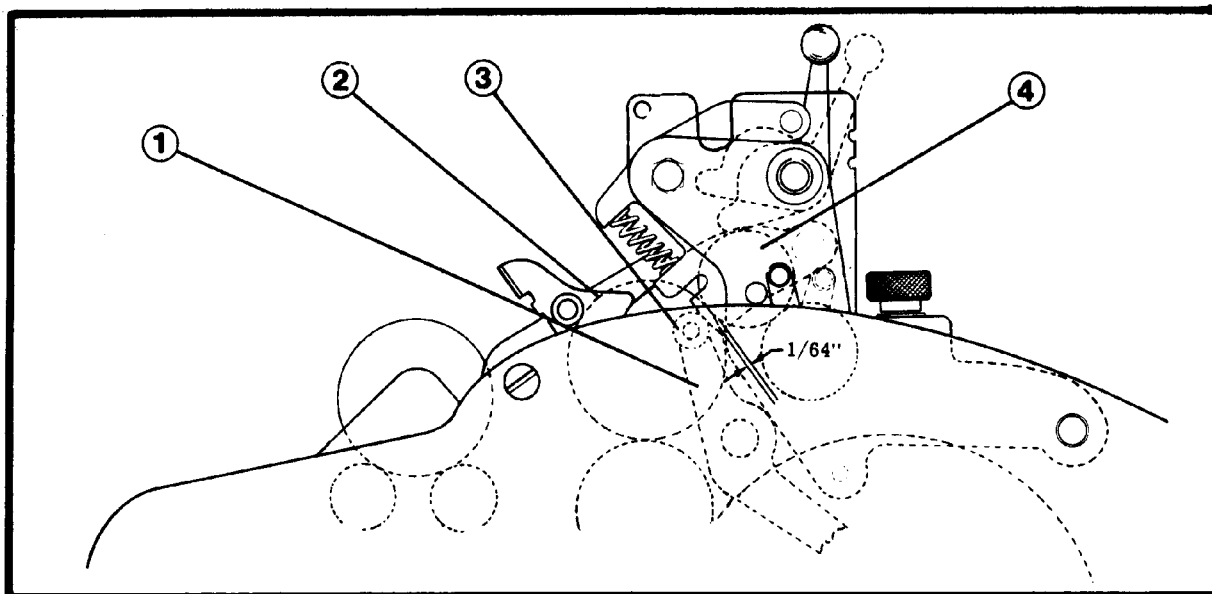

Figure 55 - Aquamatic Ductor Roller
2. Turn handwheel until ductor operating levers (1) (Figure 55) have moved as far as possible toward the receiving end of the machine. Adjust eccentric screws (3) and trucks up on both sides for 1/64" (.015") gap between aquamatic ductor (4) and oscillator (2) across the entire length.